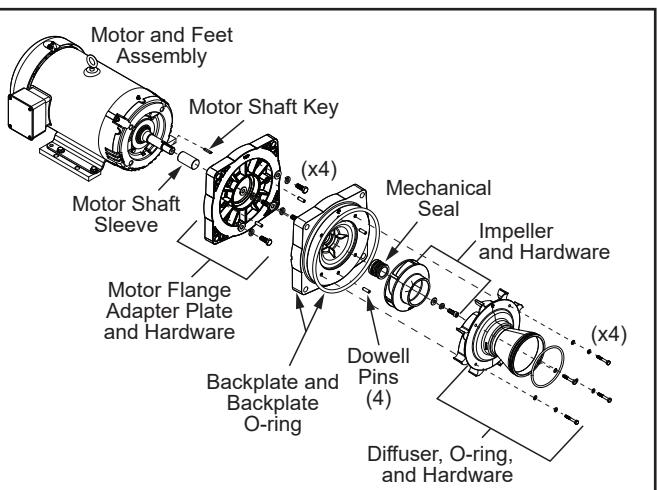

**Figure 13. Remove Pump Housing**
8. Using a 15/16" wrench, loosen the four (4) Hex Screws of the Pump Housing Hardware securing the Pump Housing to the Motor/ Motor Flange Adapter Plate/Backplate/Mechanical Seal/Impeller/ Diffuser assembly. See Figure 13.
9. Carefully pull the Pump Housing forward away from motor assembly. Ensure the Diffuser clears the pump housing during this process. See Figure 13.